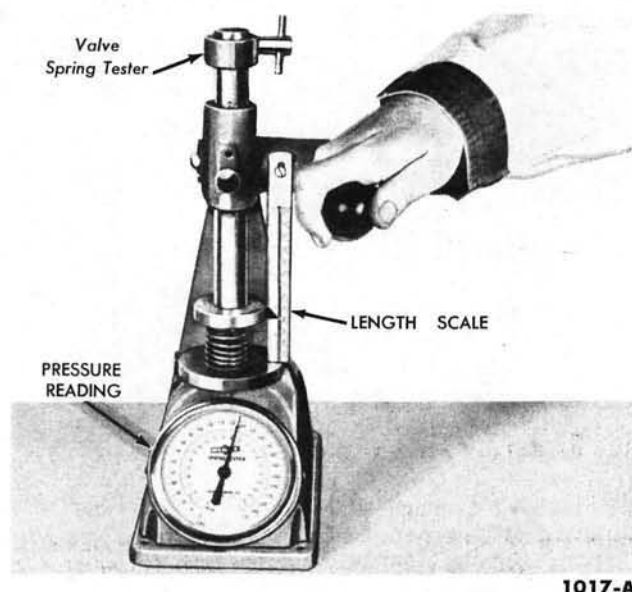

FIG. 13—Valve Spring Pressure
**Valve Spring Pressure.** Check the valve spring for proper pressure (Fig. 13). Weak valve springs cause poor performance; therefore, if the pressure of any spring exceeds the wear limit, replace the spring.